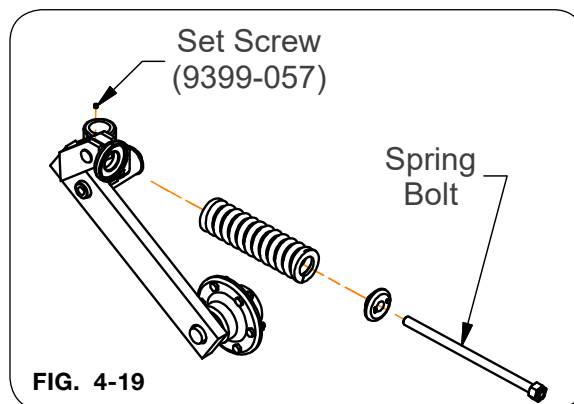

FIG. 4-19
1. Loosen the set screw retaining the spring bolt on the coulters arm (FIG. 4-19).
2. Slowly unscrew the spring bolt which will relieve spring pressure (FIG. 4-19).